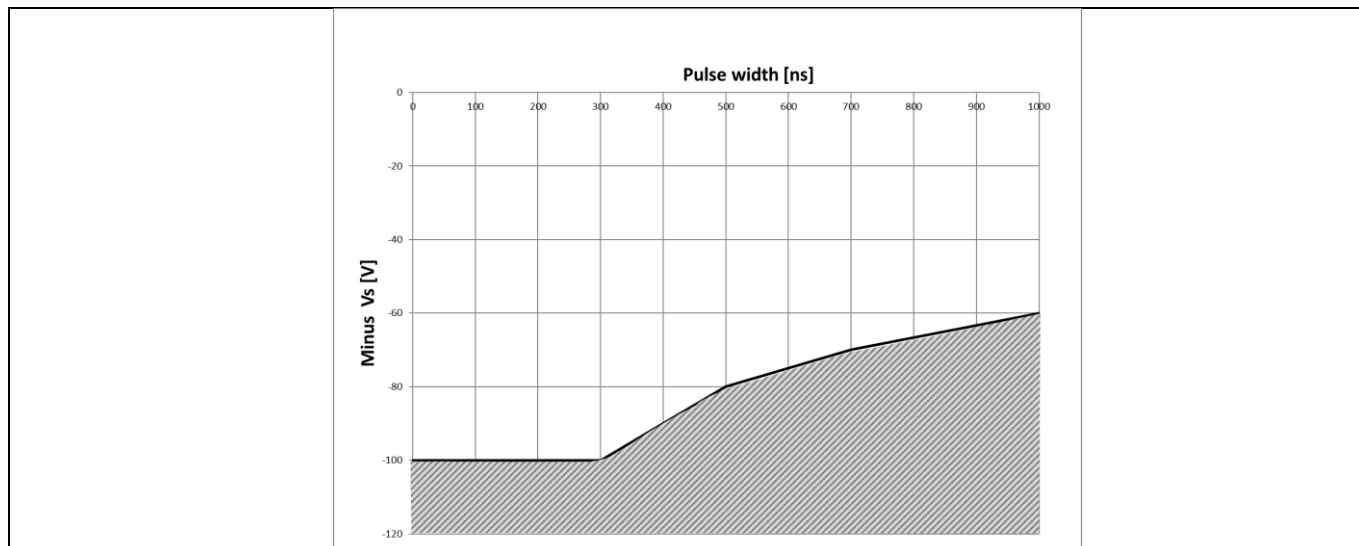

Figure 21 Negative VS transient SOA for 2ED2108 (4) S06F (J) @ $V_{BS}=15\text{ V}$
Infineon's HVICs have been designed for the robustness required in many of today's demanding applications. An indication of the 2ED2108 (4) S06F (J)'s robustness can be seen in Figure 21, where the 2ED2108 (4) S06F (J)'s Safe Operating Area is shown at $V_{BS}=15\text{ V}$ based on repetitive negative VS spikes. A negative VS transient voltage falling in the grey area (outside SOA) may lead to IC permanent damage; viceversa unwanted functional anomalies or permanent damage to the IC do not appear if negative Vs transients fall inside the SOA.